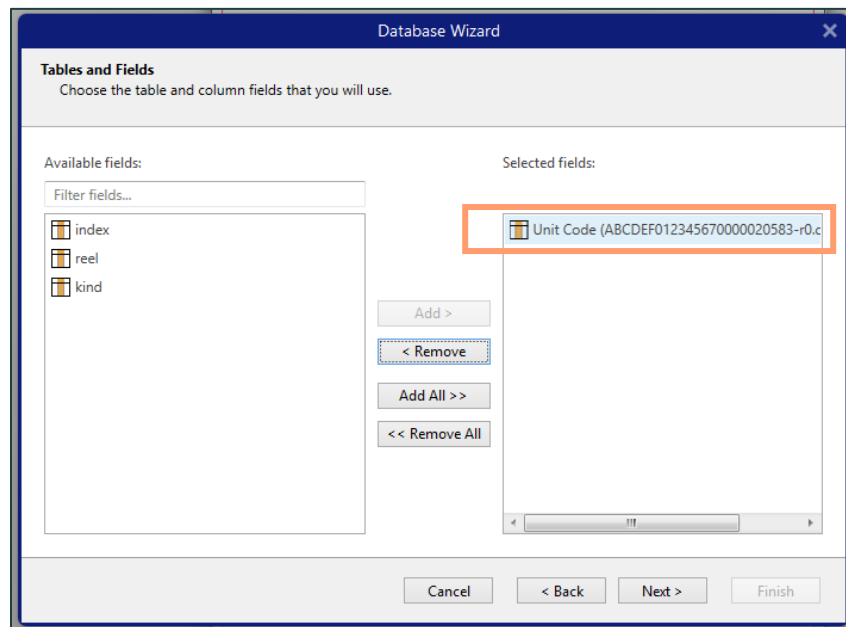

Figure 19: Database Wizard with Unit Code with Selected Fields
13. On the Tables and Fields screen, remove all fields outside of Unit Code– see figure 19.